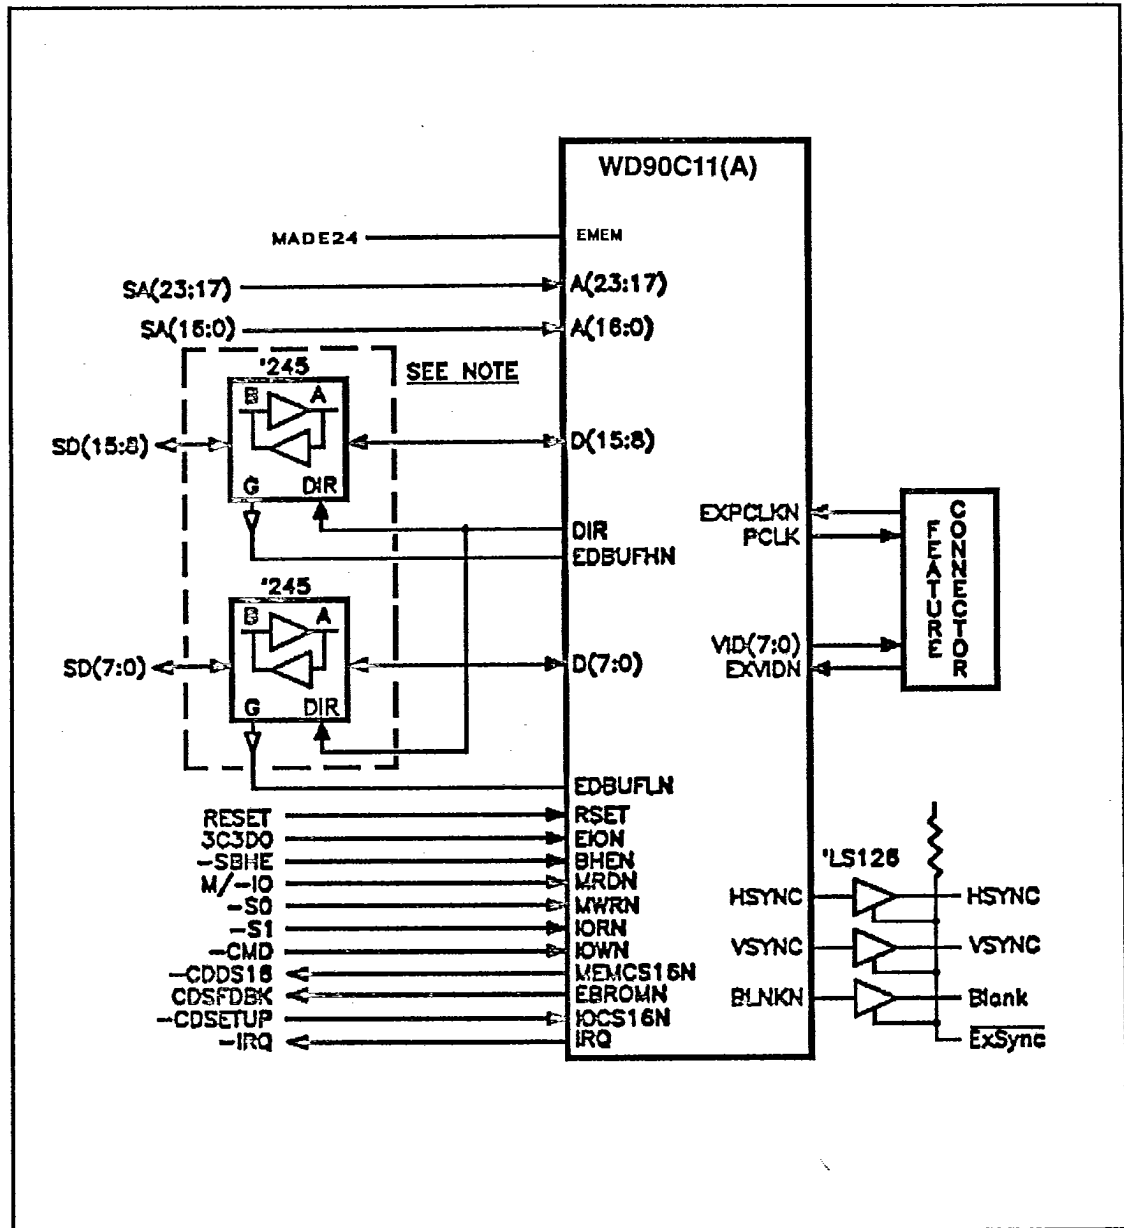

FIGURE A-6. 16-BIT MICRO CHANNEL INTERFACE
Figure A-6 illustrates the WD90C11(A) and 16-bit Micro Channel interface. 3C3.D0 is output of port 3C3H bit 0 VGA Subsystem Enable Register.